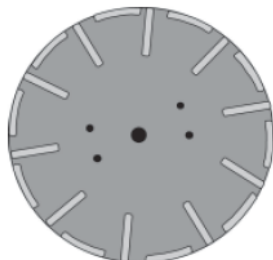

Figure 8
- Inspect the disc (*Figure 8*) periodically to determine its wear characteristics, if signs of uneven wear appear the cause should be determined and corrected. If repairs are needed contact EDCO or your EDCO representative.